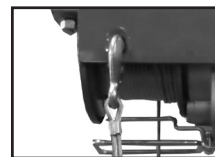

Fig 9
2. The additional hook (15) must be attached to the securing hole for hook (2) (Fig. 9).